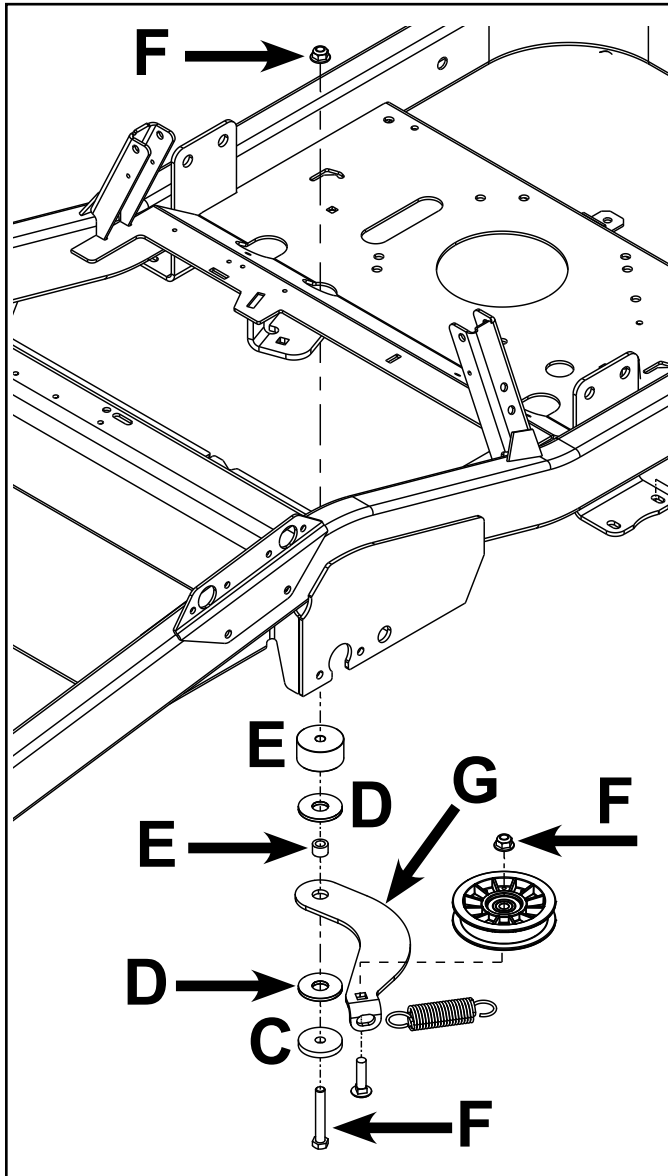

Fig. 066
11. Inspect the idler arm / tensioner pivot and pulley bearings for excessive wear and replace if necessary (Fig. 066).